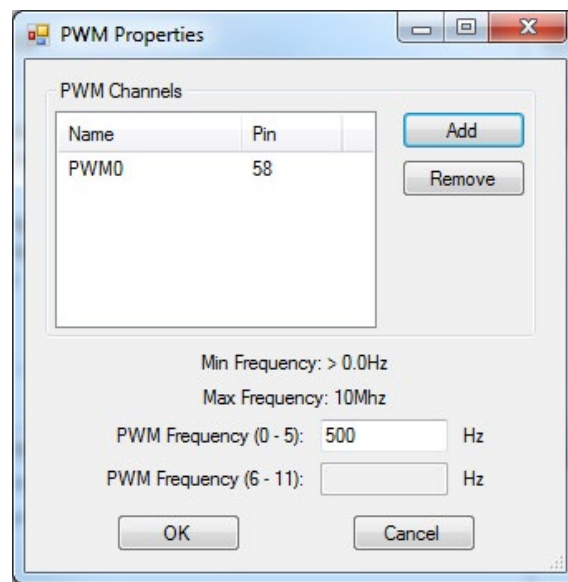

Figure 2-9 - PWM Properties
4. The PWM Properties window will open. Refer to Figure 2-9. The channels listed were previously configured. To add additional channels, click the **ADD** button. The Add PWM Dialog will open. Refer to Figure 2-10.
- Enter the base PWM frequency for the channel groups as needed (channels 0-5 use one frequency while channels 6-11 use another frequency setting. PWM channels in each group are based on the frequency for each group. The frequencies may be the same, but the frequency must be entered in both boxes. Refer to Figure 2-9.